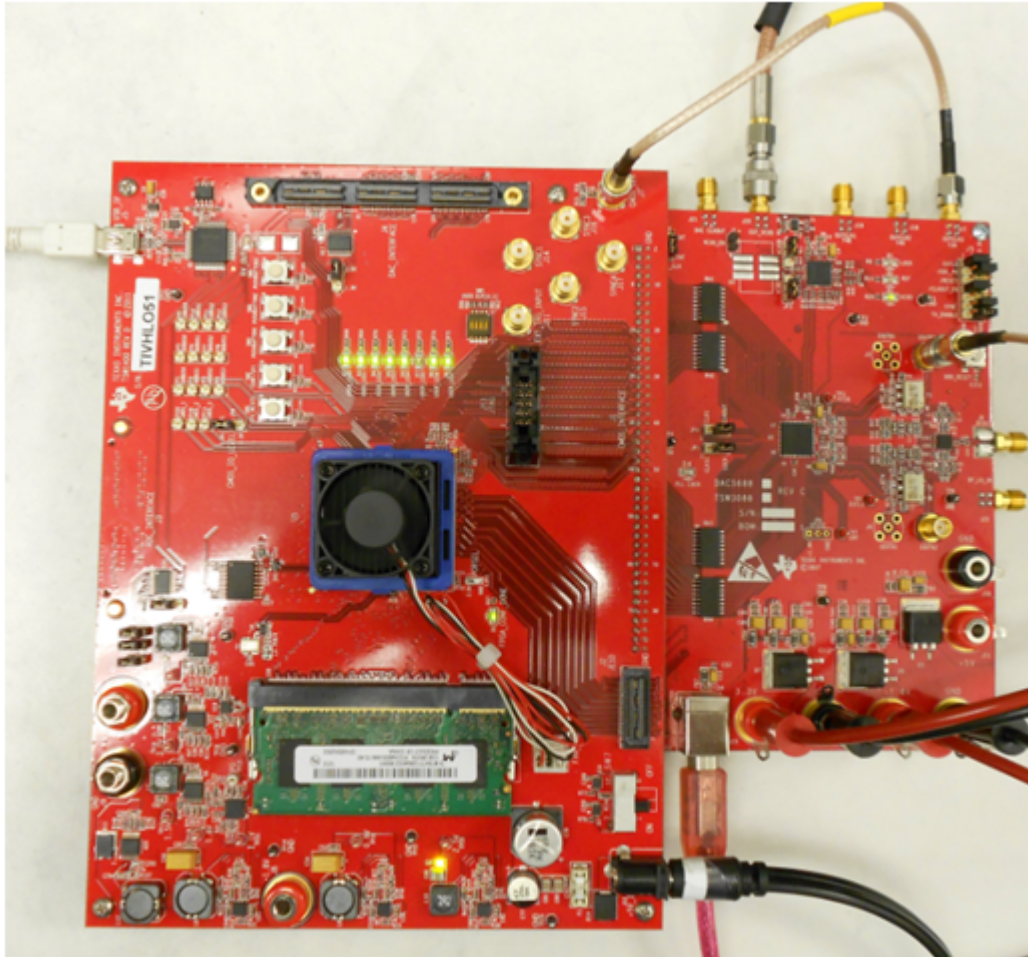

Figure 49. TSW1400EVM Interfacing to the CMOS Connectors of a DAC5688EVM
- The TSW1400 EVM connected to the CMOS connectors of the DAC5688 EVM is shown in Figure 49